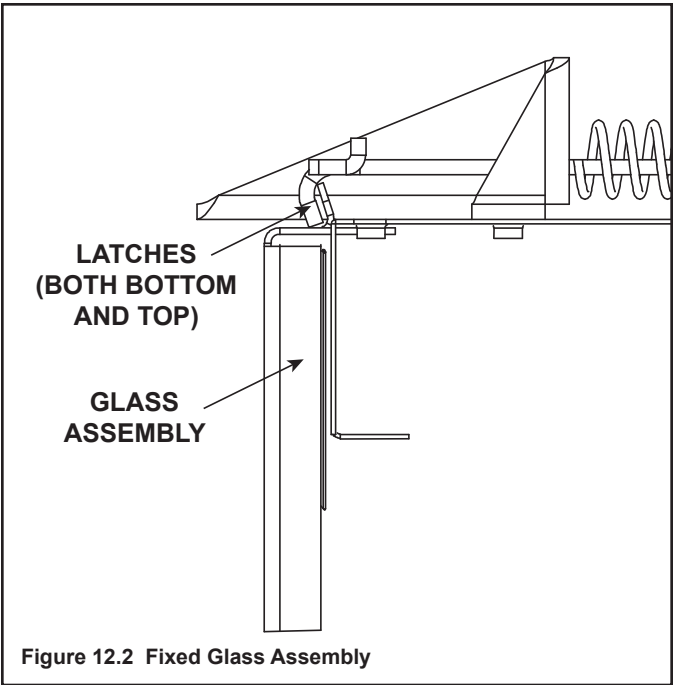
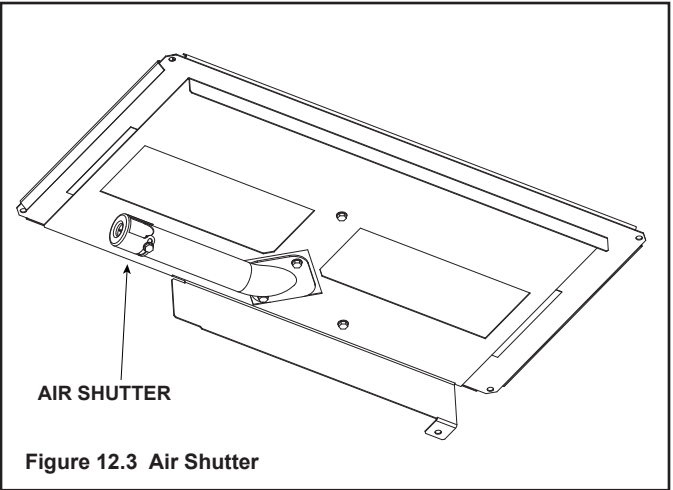

Figure 12.2 Fixed Glass Assembly
Figure 12.3 Air Shutter
- Place dime-size pieces of Glowing Embers® just in front of the port trail, but not on or in between the ports. See Figure 12.2 (QFI30FB) or Figure 12.3 (QFI35FB). Care should be taken so that the ports are not covered. Failure to follow this procedure will likely cause lighting and sooting problems.
- The glass assembly fastens to the fireplace in four places. The fastening mechanisms are spring-loaded glass latches. An example of the glass latch is shown in Figure 12.2.
Air shutter settings should be adjusted by a qualified service technician at the time of installation. The air shutter is set at the factory for minimum vertical vent run. Adjust air shutter for longer vertical runs. See Figure 12.3.